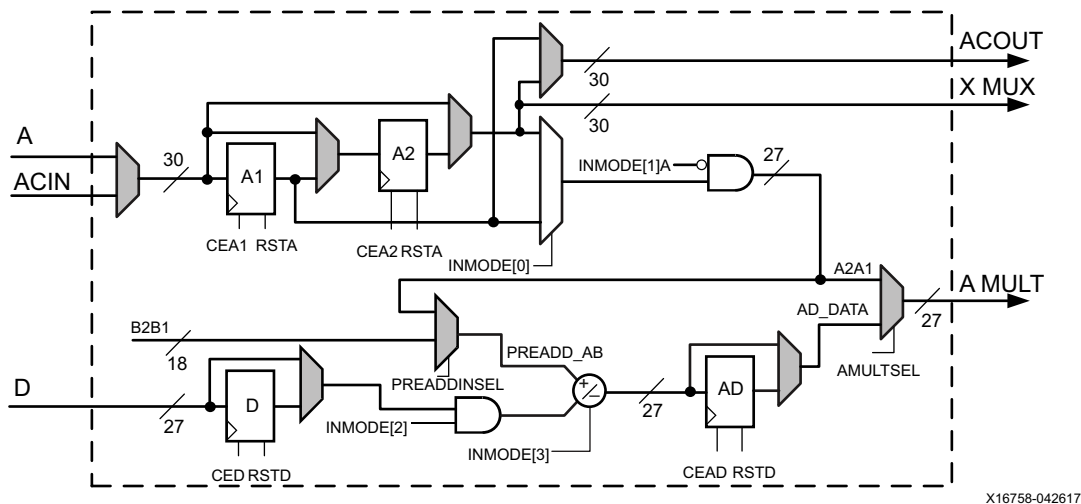
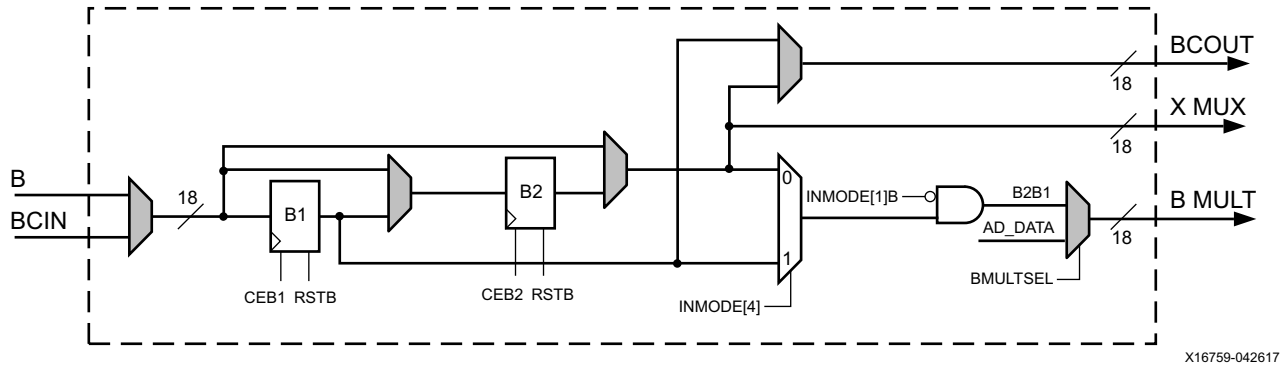

Figure 2-5: Dual A, D, and Pre-Adder Logic
Figure 2-6: Dual B Register Logic
The A and B input port and the ACIN and BCIN cascade port can have 0, 1, or 2 pipeline stages in its datapath. The dual A, D, and pre-adder port logic is shown in Figure 2-5. The dual B register port logic is shown in Figure 2-6. The different pipestages are set using attributes. Attributes AREG and BREG are used to select the number of pipeline stages for A and B direct inputs to the X multiplexer to the ALU, and INMODE[0] can dynamically change the number of pipeline stages to the multiplier. Attributes ACASCREG and BCASCREG select the number of pipeline stages in the ACOUT and BCOUT cascade datapaths. The allowed attribute settings are shown in Table 3-3, page 52. Multiplexers controlled by configuration bits select flow through paths, optional registers, or cascaded inputs. The data port registers allow users to typically trade off increased clock frequency (i.e., higher performance) vs. data latency.
1. INMODE[1]A and INMODE[1]B are internal signals defined by the user settings of PREADDINSEL and INMODE[1]. If PREADDINSEL=A, INMODE[1]A (see Figure 2-5, page 22) is INMODE[1] and INMODE[1]B (see Figure 2-6, page 23) is 0. If PREADDINSEL=B, INMODE[1]B is INMODE[1] and INMODE[1]A is 0.